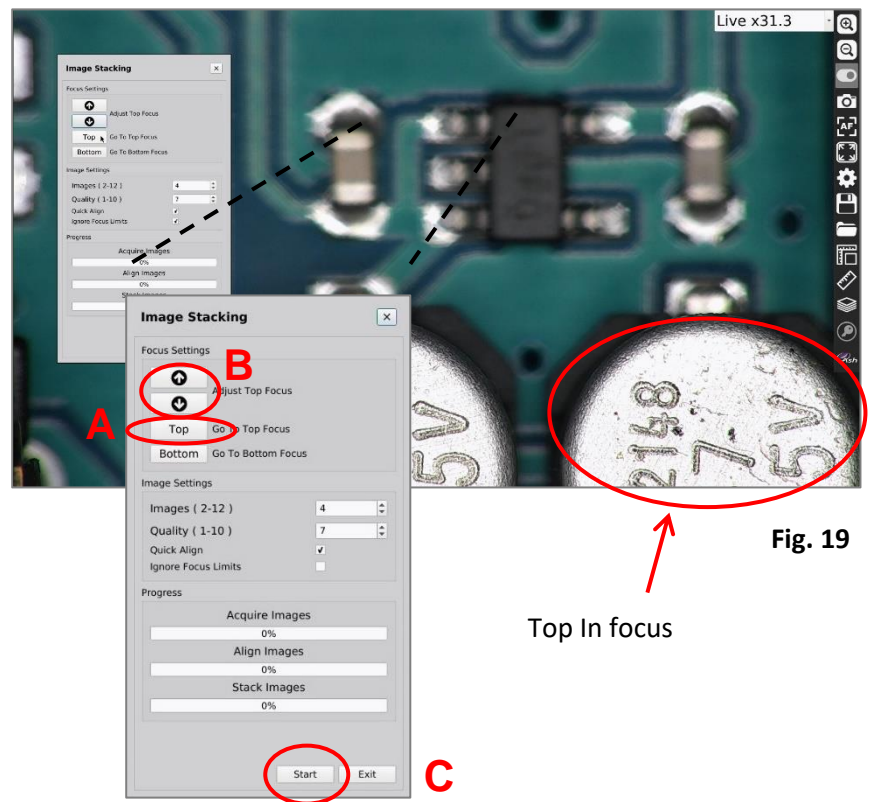

Fig. 19
3. Now (A) click on the **Go to Top Focus** button, then (B) adjust the focus using the up/down arrows in the **Adjust Top Focus** Section (Fig. 19).